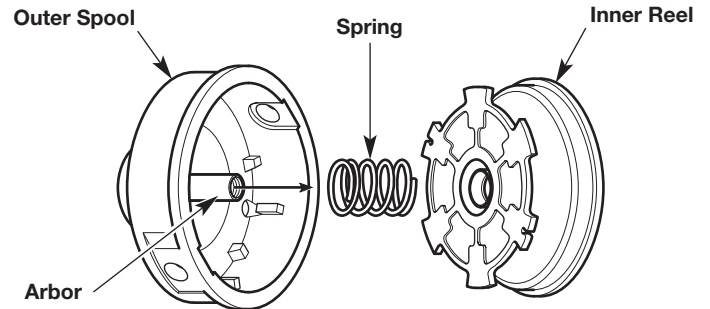

Fig. 27
NOTE: The outer spool (Fig. 27) will remain attached to the unit.
3. Remove the inner reel from the outer spool (Fig. 27).
4. Remove the spring from the inner reel (Fig. 27).